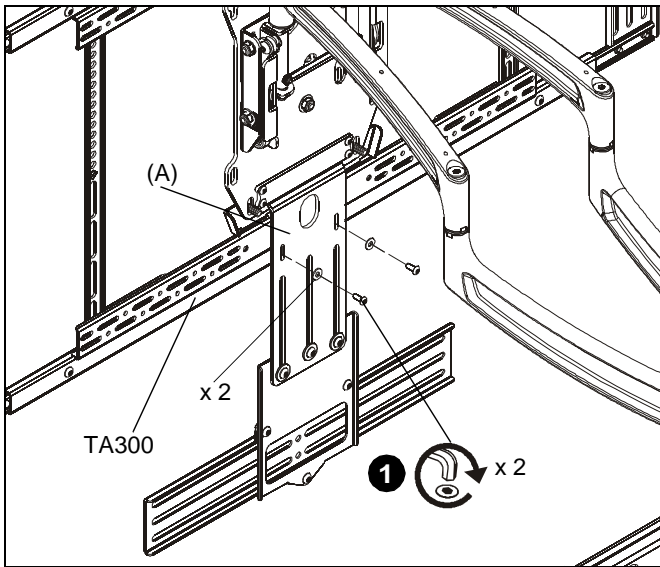

Figure 9
1. Use two #10-24 x 1/2" button head cap screws and two #10 washers (provided with TA300) to connect horizontal bracket on side speaker brackets to attachment bracket (A). (See Figure 9)